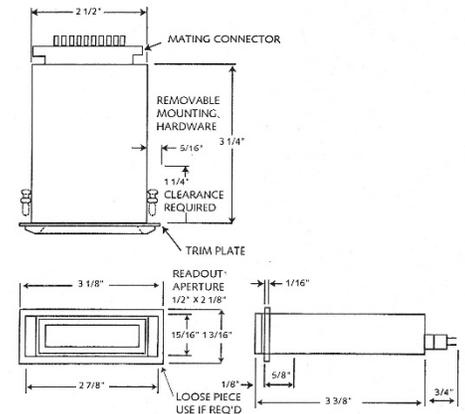

Figure 2. Outline Drawing
- Cut a hole in panel (Figure 2).
- Fit mounting clips (2) into slots at sides of instrument. Foot of clip should face forward.
- Thread screws (2) into clips and tighten screw against rear surface of panel.